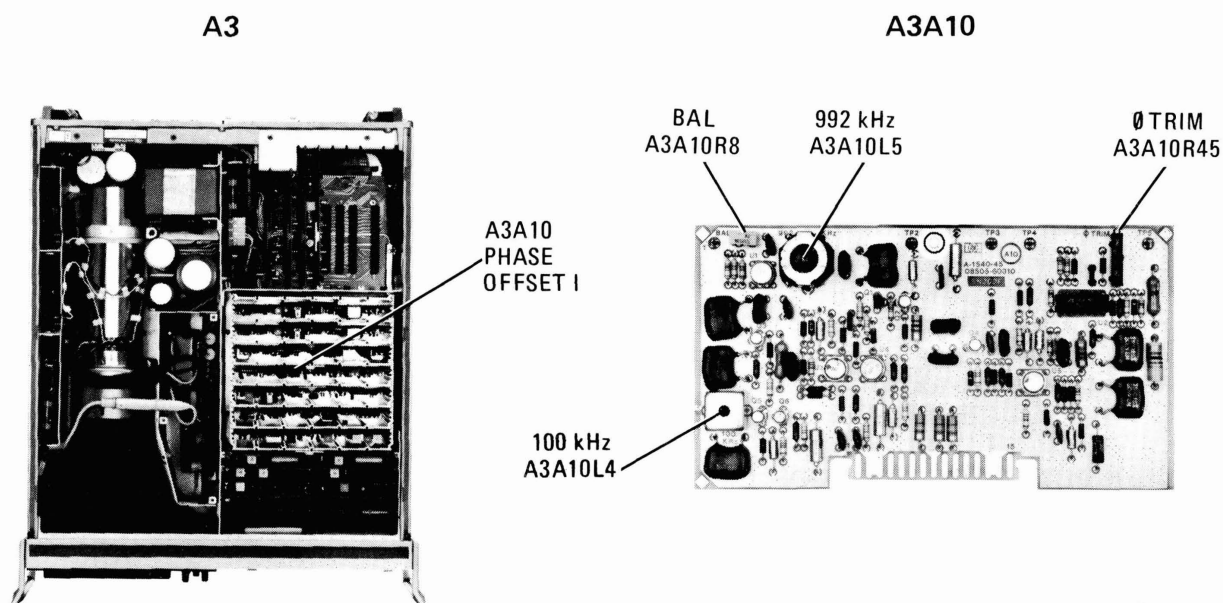

Figure A5-34. A3A10 Adjustment Locations
- d. Set NORM-ALIGN switch S1 on A3A9 PHASE OFFSET 2 board to NORM (left). Connect 8553B Spectrum Analyzer to A3A10TP1 using 1121A probe. Adjust "100 KHZ" control A3A10L4 (Figure A5-34) for maximum 100 KHz signal.
- s. Observe the CRT trace. If the trace is not on the center graticule line, adjust " ϕ TRIM" control A3A10R45 to place the trace on the center graticule line ± 0.2 degrees (Figure A5-34).